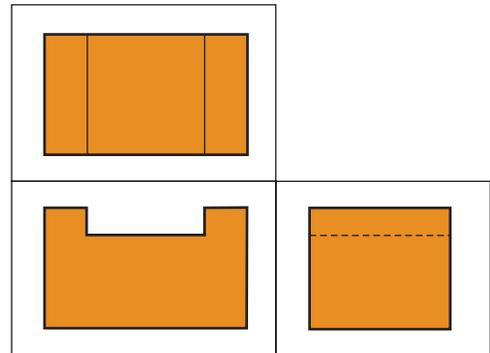

Figure A-51 Drawing for question 2.
2. Assume third-angle projection. Label the views in Figure A-51.